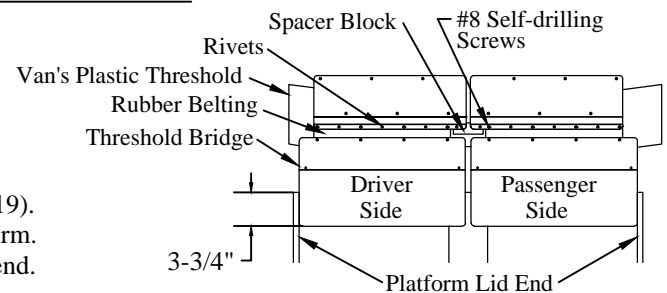

Figure 19: Threshold bridge location.
- Position** the driver side threshold bridge across the threshold (Figure 19).
- Install** the threshold bridge spacer block under the threshold bridge (Figure 19).
- Attach** the driver side threshold bridge to the van floor using the supplied ten (10) #8 x 1-1/4" or 2" self-drilling screws.
- Position** the passenger side threshold bridge using the spacer block (Figure 19).